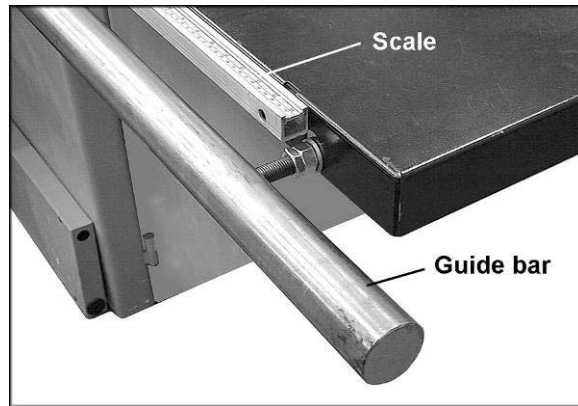

Figure 17
1. Mount the scale (Figure 17) to the edge of the cast iron table with six M6 x 16 socket head cap screws and six square nuts.